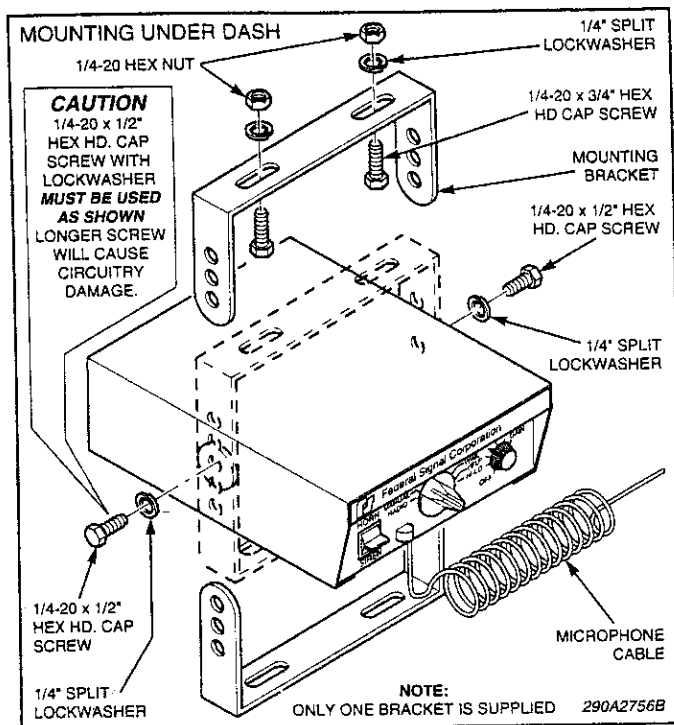

Figure 3-1. Installation of PA300 Under Dash.
The unit should be mounted in a position that is both comfortable and convenient to the operator. Keep visibility and accessibility of controls in mind. To install the unit under the dash, determine the mounting location and proceed as follows (see figure 3-1).
C. Secure the mounting bracket to the dash with user-supplied 1/4-20 x 3/4 hex head screws, 1/4 split lockwashers and 1/4-20 hex nuts as shown in figure 3-1.
D. Secure the electronic siren to the mounting bracket with 1/4-20 x 1/2 hex head screws and 1/4 split lockwashers as shown in figure 3-1.
To avoid damage to the unit, the 1/4-20 x 1/2 hex head cap screws and the 1/4 split lockwashers must be used as shown in figure 3-1.